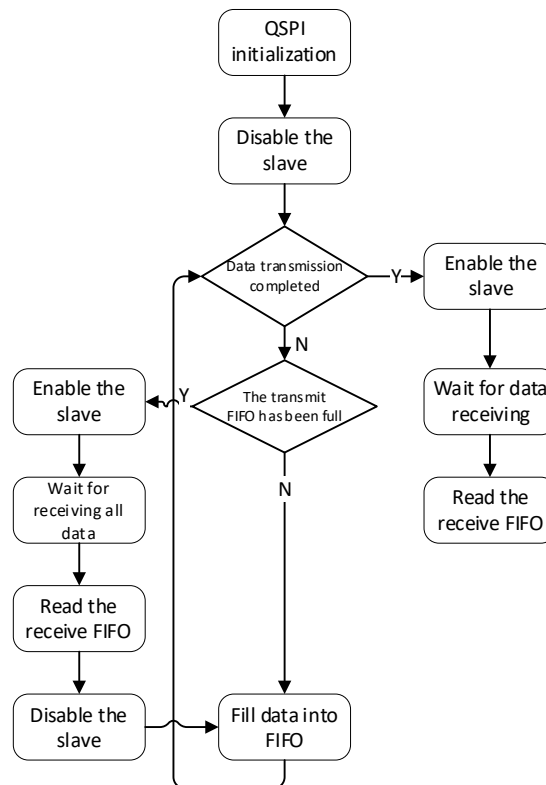

Figure 10 Batch Transmission Flow Chart of Standard SPI Mode
**b. Batch send and receive:** When conducting batch send and receive in standard SPI mode, the operation flow of QSPI is shown in Figure 10 Batch Transmission Flow Chart of Standard SPI Mode. First, disable the slave, set SLAEN to 0, and then fill the data into the transmit FIFO. The FIFO size of QSPI is 8\*32bit. Therefore, after filling the FIFO with data 8 times, the TFNF of the QSPI\_STS register will be set to zero, indicating that the transmit FIFO has been full. If the transmit FIFO is full, enable the slave (set SLAEN to 1) to send the data from the FIFO and wait for the data to be received and read. After completing the data reading, disable the slave and continue to fill data into the transmit FIFO. When all data has been filled into the transmit FIFO, enable the slave to send the remaining data and wait for the data to be received and read.